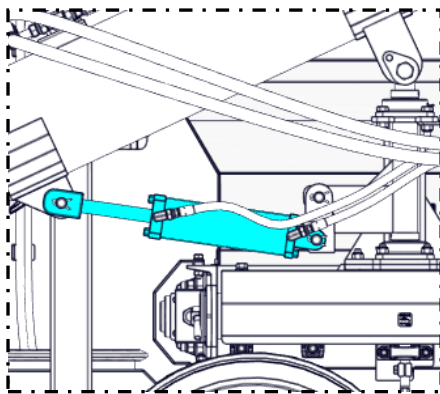

Figure 4.14
- C) Once the retainer ring is removed, swing the auger out of the auger rest and use the hydraulics to lift or lower the transfer auger into the needed position (Figure 4.14).